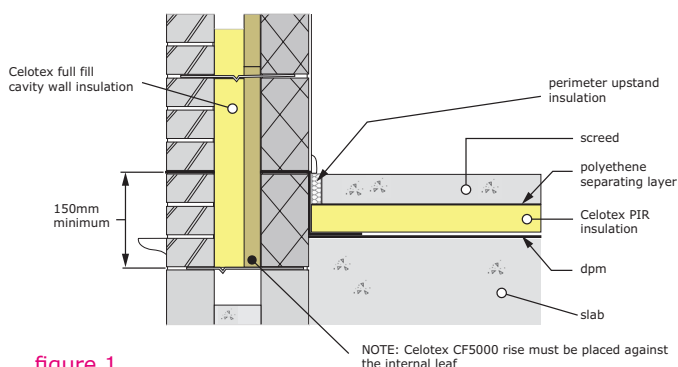

figure 1
3. The first row of insulation is fitted against the leading leaf on to the first row of wall ties, so the rise of the thinner rebated edge faces away from the external leaf pointing upwards (see figure 1). These should be installed to a minimum depth of 150mm below the damp proof course (DPC) to provide edge insulation to the floor and reduce thermal bridging at this junction.